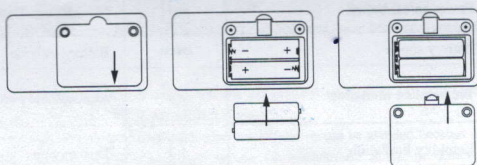

Figure 3. Batteries Installation
- Refer to Figure 3. Use a screwdriver to unscrew the two screws from the battery compartment on the back of the product and open the back cover of the battery compartment.